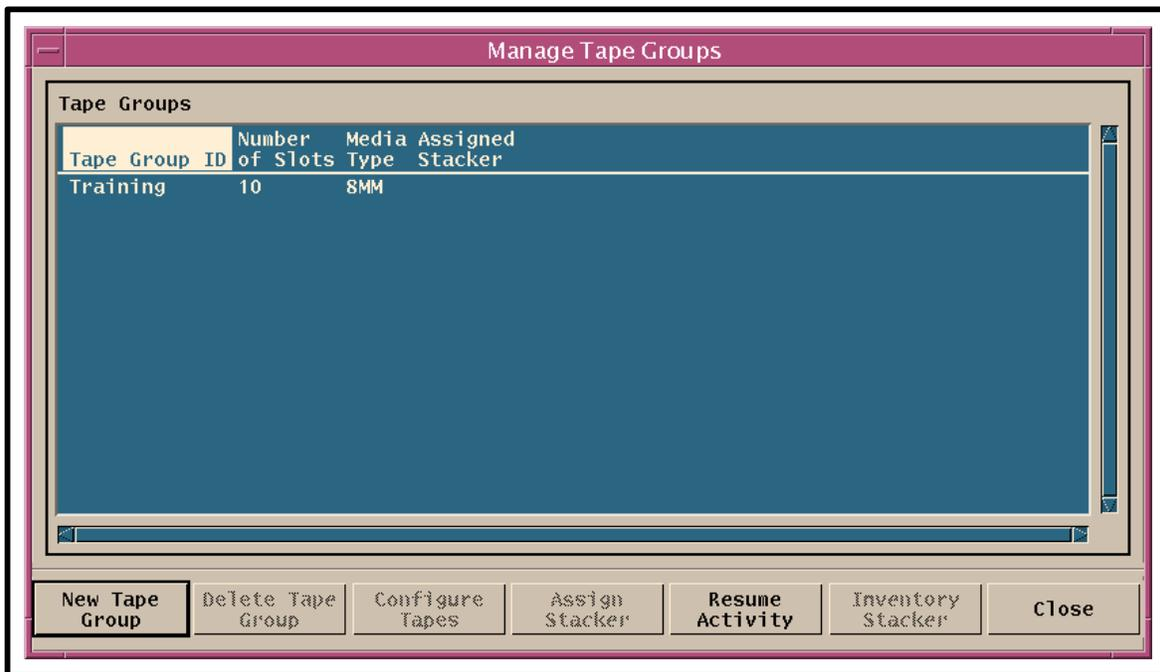

Figure 13. Manage Tape Groups Window (Storage Management Control GUI)
- The **Manage Tape Groups** window (Figure 13) is displayed.
- 8 Highlight the tape group to be modified by clicking on the name of the tape group in the **Manage Tape Groups** window (Figure 13).